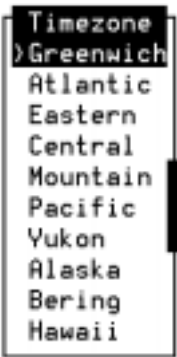

Figure 3-22. UNIX Time Zone Choices Menu
1. Press **(CHOICES)** (F2) to display the list of time zones (Figure 3-22).